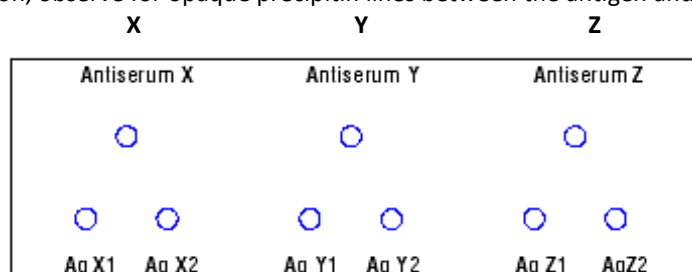

Fig 2: Template for addition of antiserum and antigen to their respective wells
5. Add 10 µl each of the antiserum and the corresponding antigens to the wells as shown in fig 2.